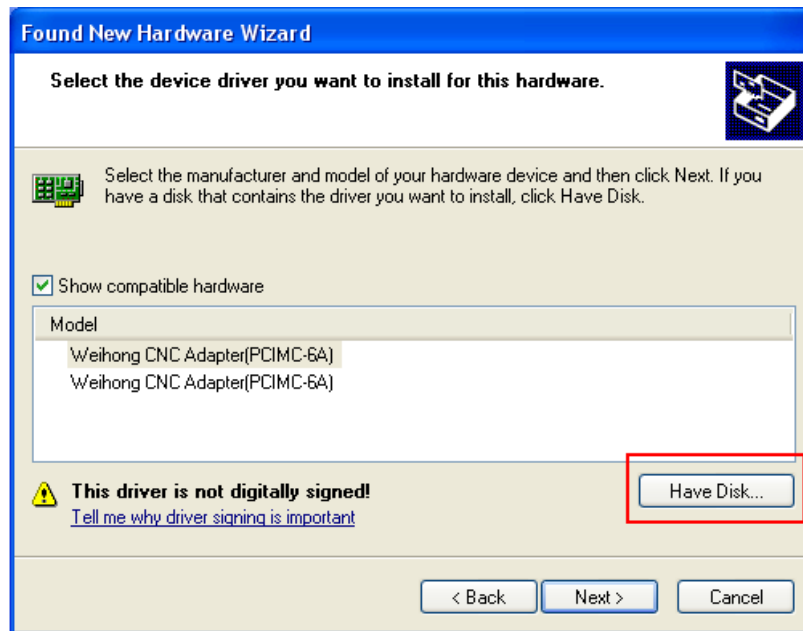

Fig. 2-3 Select the driver manually
- 4) A dialog box containing compatible hardware will pop up, as shown in Fig. 2-3, click [Have Disk...] button to open the next dialog box.